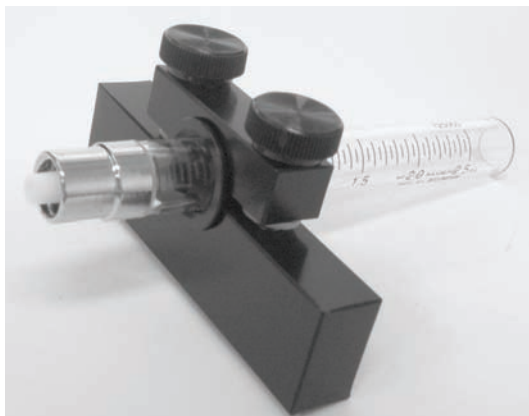

Figure 181: Clamp fitted to syringe
2. Fit the top and bottom clamp sections over the sleeve (as shown in Figure 181) but do not completely tighten so the tube can still turn.